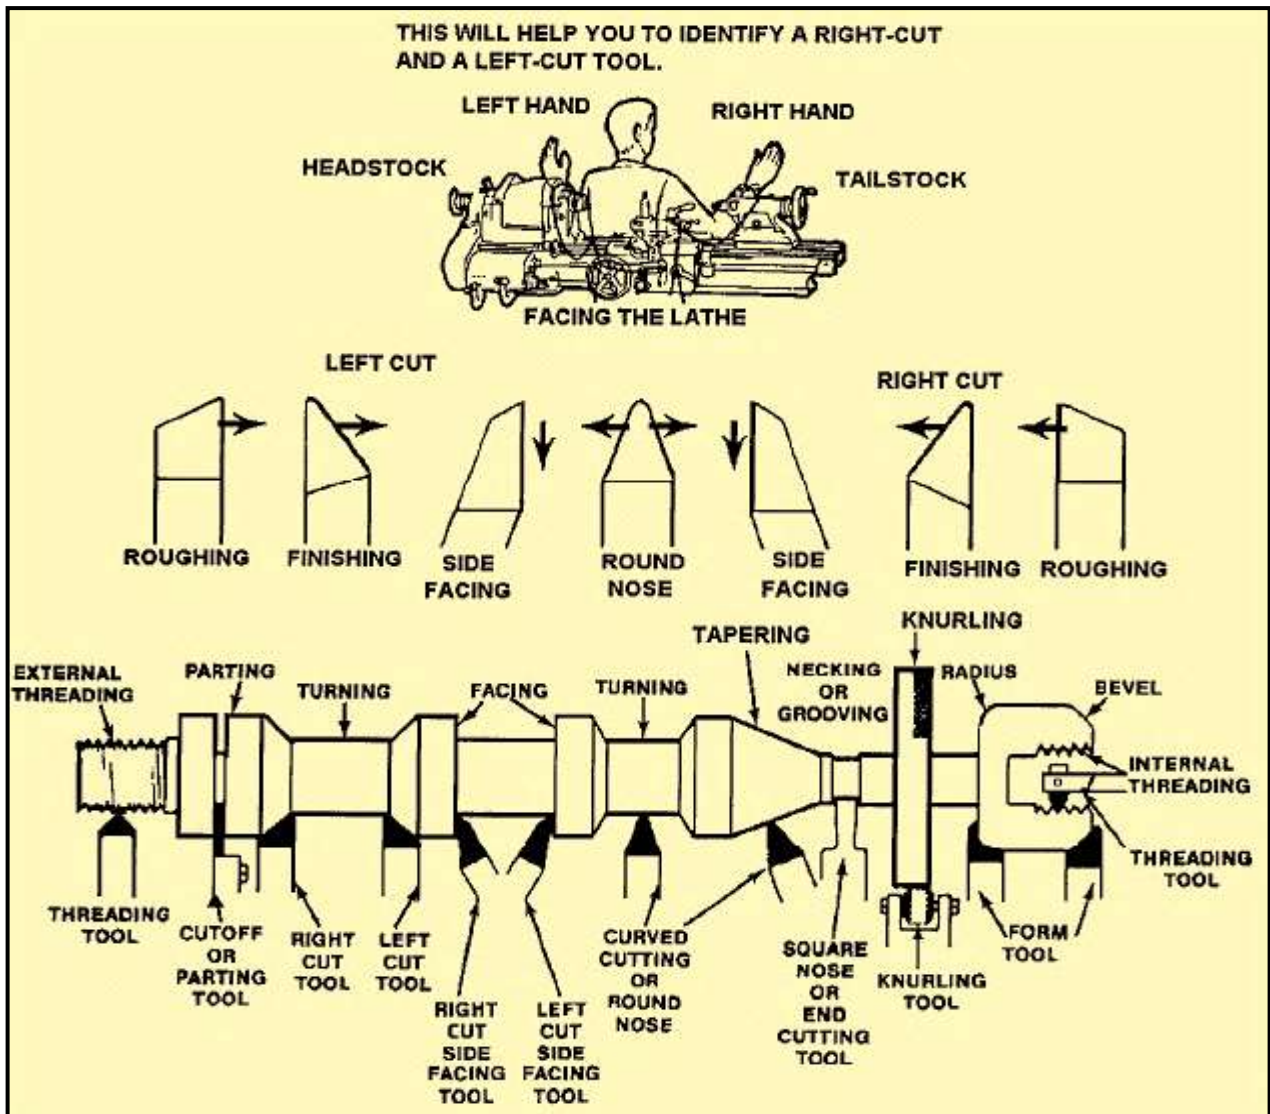

Figure 7-5. Shapes of tool bits.
**Shapes of Tool Bits:** The overall shape of the lathe tool bits can be rounded, squared, or another shape as long as the proper angles are included. Tool bits are identified by the function they perform such as turning or facing. They can also be identified as roughing tools or finishing tools. Generally, a roughing tool has a radius ground onto the nose of the tool bit that is smaller than the radius for a finishing or general-purpose tool bit as shown in Figure 7-5.